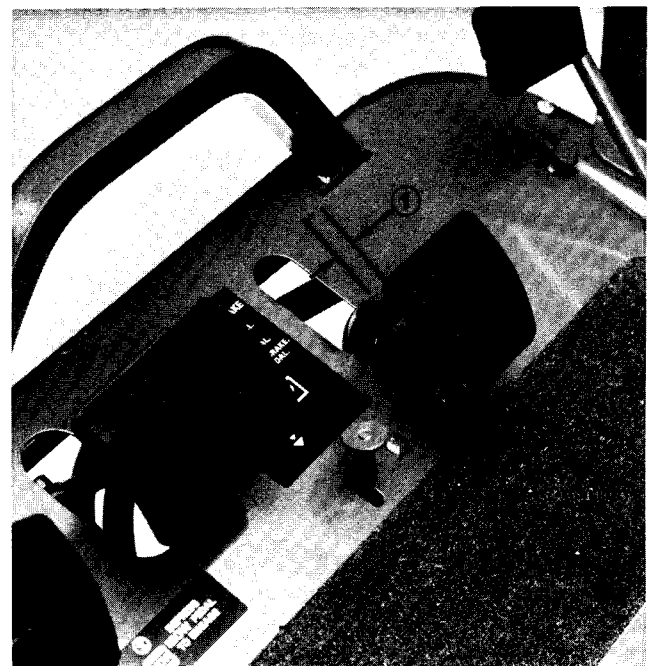

Figure 4
5. Check brake pedal free travel. There should be 1/2 in. to 1 in. travel before the brake shoes make contact with the brake drums. Adjust again, if necessary, to get this setting (Fig. 4).